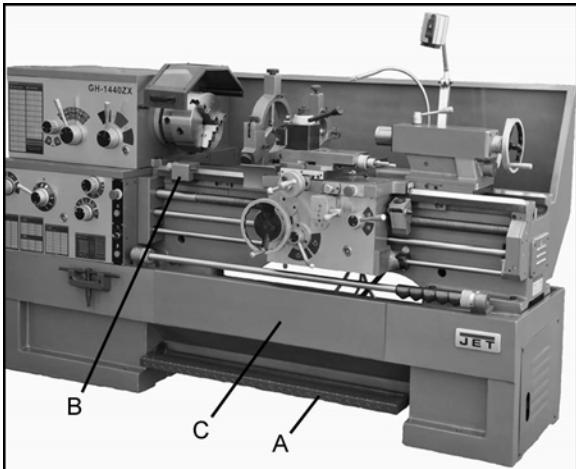

Figure 18 – Other controls
- 23. Foot Brake (A, Figure 18):** The connecting rod mechanism is in the bed stand. The braking device is in the pulley of the headstock. Press the pedal to stop all lathe functions. (**Caution:** Lathe still has power.)
- 24. Micro Carriage Stop (B, Figure 18):** can be used during manual feed operation. The dial can be turned for fine tuning the position of the stop. The micro carriage stop can be moved along the bed by loosening the two socket head cap screws underneath the stop.
- 25. Bed Cover (C, Figure 18):** can be easily removed to clean out the stand.